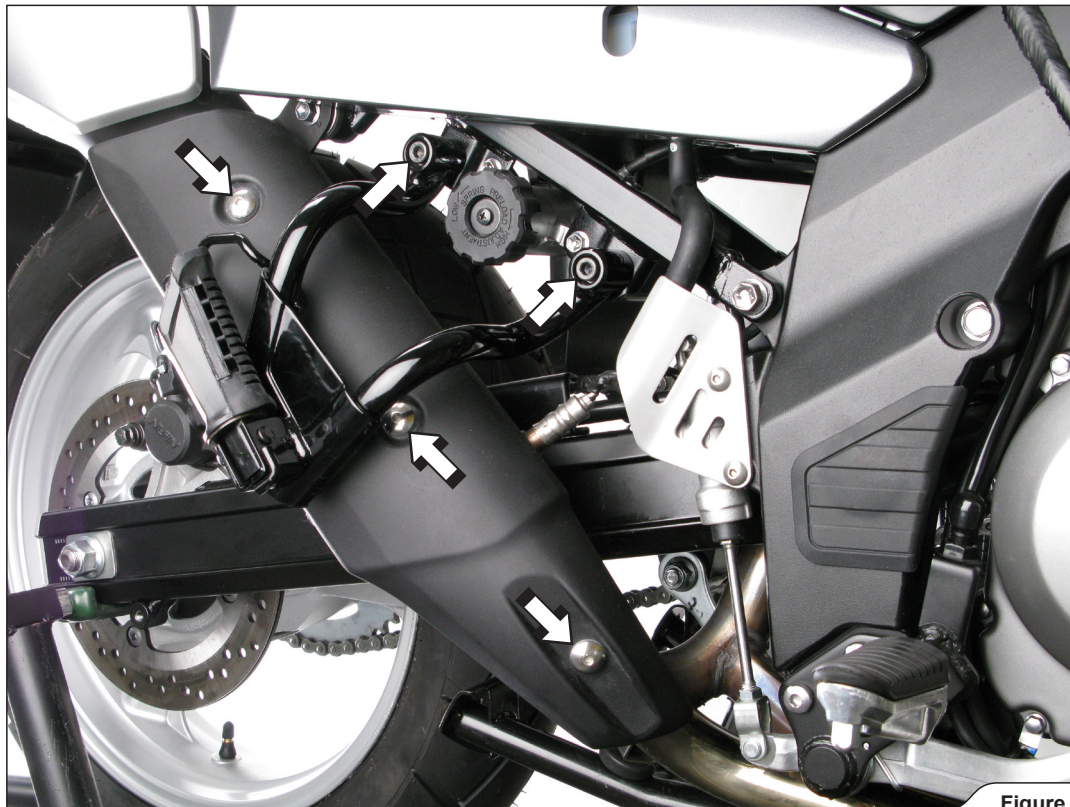

Figure 1
2. Unscrew the marked bolts and remove the right passenger's footrest and muffler's heatshield off the motorcycle (Figure 1).